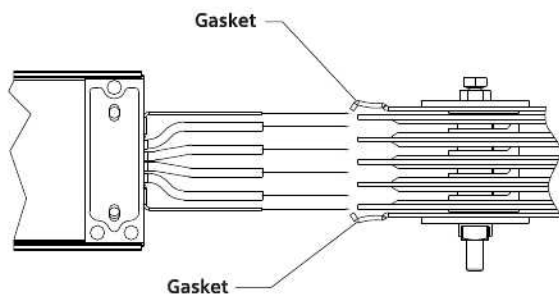

Figure 22. Side View of End Ramp Gasket
WARNING: If the busway is other than IP40, the top and bottom joint stack plates will have strip gaskets installed along the underside of the edges. Care must be taken to avoid damaging the gaskets that seal the end ramps and housing (Figure 22). Do not dislodge or roll the gaskets out of position. To ease the assembly process, it may be necessary to loosen the joint bolt(s) an additional amount. However, do not remove the joint bolt nut(s).
9.4.3 Care must be taken to avoid damaging the gaskets that seal the end ramps and housings (Figure 22). Do not dislodge or roll the gaskets out of position. To ease the assembly process, it may be necessary to loosen the joint bolt(s) an additional amount. However, do not remove the joint bolt nut.